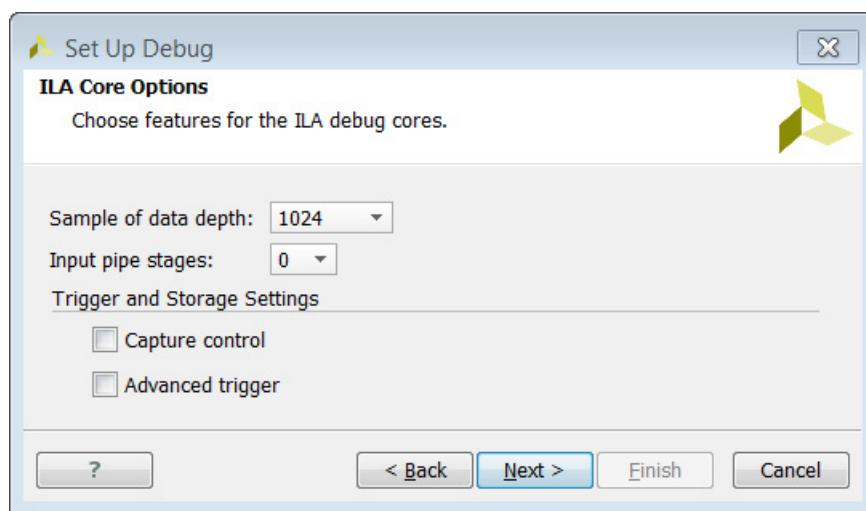

Figure 6-22: Setup the Trigger and Capture Modes in the ILA
- In the ILA Core Options page, shown in Figure 6-22, page 114, select the appropriate options for triggering and capturing data, and click **Next**.